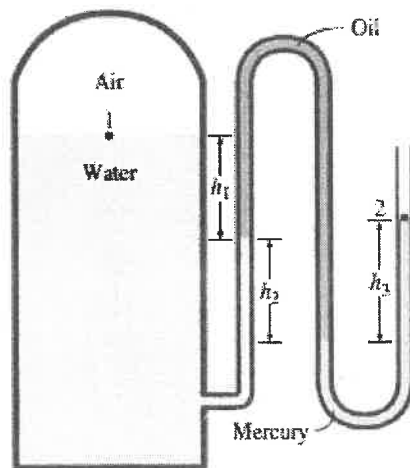

Figure 1: Pressure measurement using water, oil, and mercury manometer
- c) The water in a tank is pressurized by air, and the pressure is measured by a multifluid manometer as shown in Figure 1. Determine the gage pressure of air in the tank if $h_1 = 0.4 \text{ m}$, $h_2 = 0.6 \text{ m}$, and $h_3 = 0.8 \text{ m}$. Take the densities of water, oil, and mercury to be 1000 kg/m^3 , 850 kg/m^3 , and 13600 kg/m^3 , respectively. (8 marks)